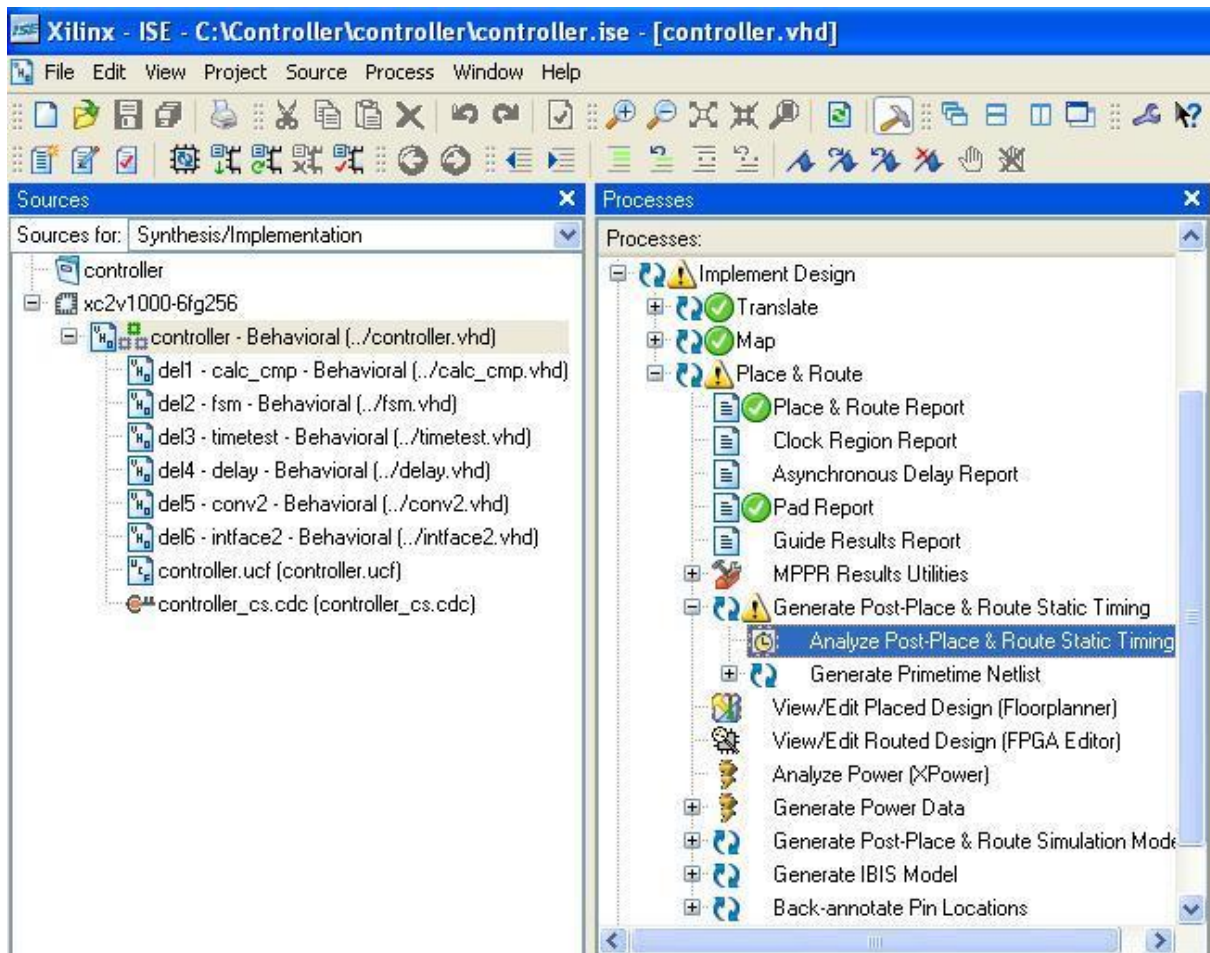

Fig 3.22: Timing Analyzer
1. Expand Place and Route process in processes tab. Double click on **Generate Post-Map & Route Static Timing**. In order to view the report, click '+' sign to Generate Post-Map Static Timing and double click on **Analyze Post-Map Static Timing Report** as shown in the Fig 3.22.